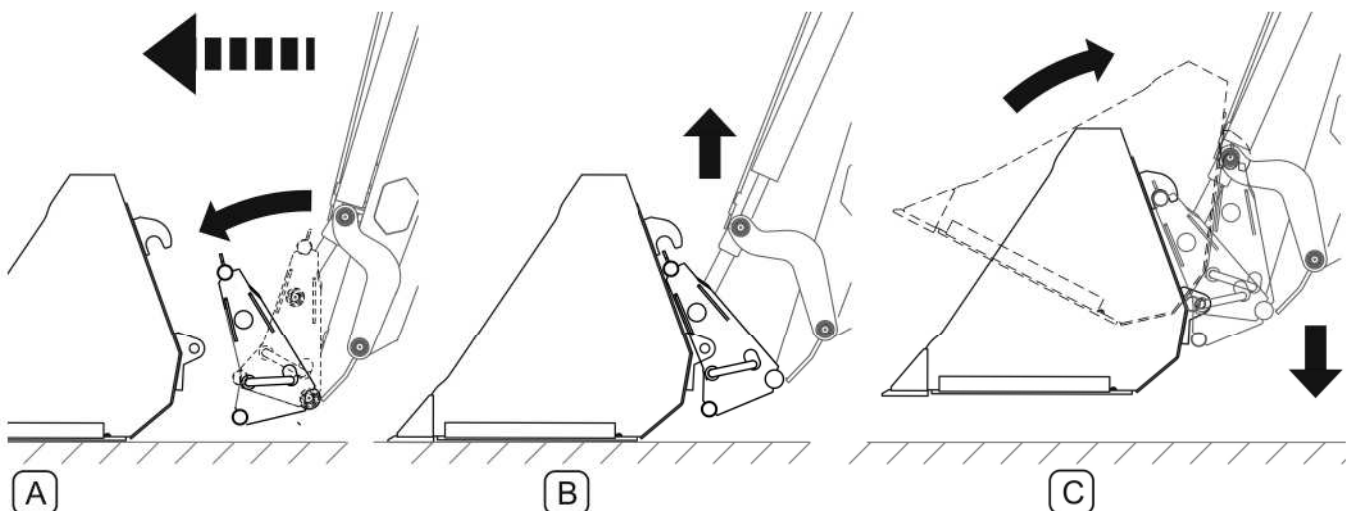

FIG. 4.26A Mounting working implement
- rotate the frame forward and lower the arm so that mounting points on quick mounting frame are below the mounting points of the implement (A, FIG. 4.26A);
- raise loader introducing frame points into implement hooks (B, FIG. 4.26A);
- moving lever in cab tilt frame to the rear and lower the ram causing interlocking of quick mounting mechanism (C, FIG. 4.26A)